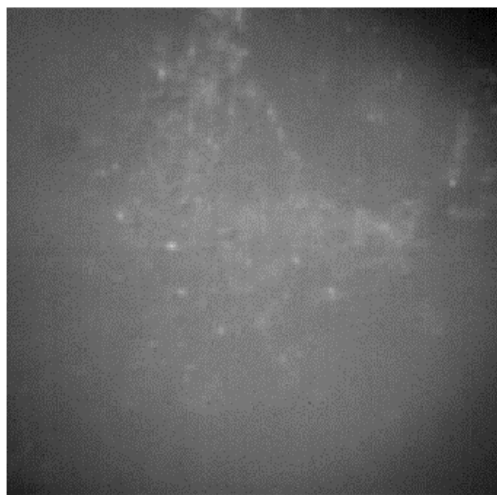

Figure 5. Superimposed image of the single molecule dataset.
- Step 2. Click ‘Show diffraction image’ button to show the superimposed image of the single molecule dataset in an astigmatism-based configuration (Figure 5).